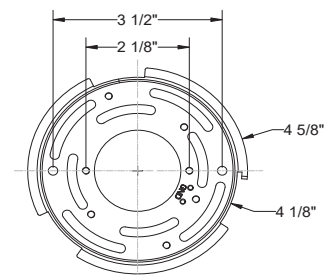

Fig. 2 Wiring
CONNECTING THE WIRES (Fig. 2)
8. Connect the fixture's input's wires to junctionbox wires as shown in Fig. 2, making sure that all wire connectors(A) are secured. If your outlet box has a green or bare copper ground wire, connect the fixture's ground wire to it. Otherwise, connect the fixture's ground wire directly to the mounting plate using the green screw provided. After wires are connected, tuck them carefully inside the junction box.